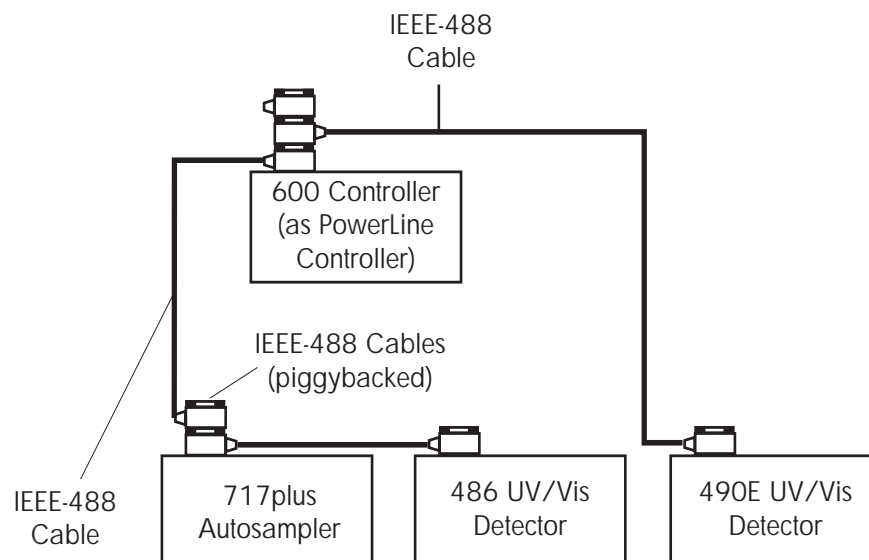

Figure 3-5 PowerLine Controller IEEE-488 Connections
1. Connect the single-receptacle end of the IEEE-488 cable (supplied with the 600 series system) to the IEEE-488 connector on the 600 controller rear panel (Figure 3-5).
Figure 3-5 illustrates IEEE-488 cable connection.